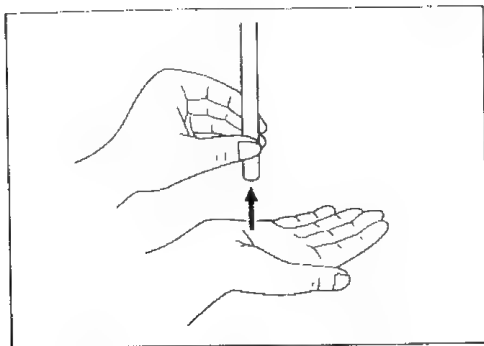

Fig. 13
9. Exercise the endoscopes automatic iris. Bring the tip of the endoscope within 1 cm of the palm of your hand and move it to about 5 cm away from the palm (Fig. 13). Watch the image on the monitor to ensure the brightness at both distances is similar. Lift the distal end of the endoscope to the room lights, the light being emitted at the distal end of the scope should lower significantly (dependent on the ambient light levels in the room). Return the distal end of the endoscope to point at the palm and ensure the light is being emitted from the distal end of the endoscope.